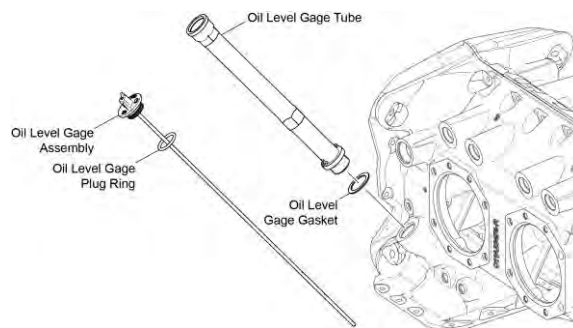

Figure 3
- B. Carefully turn the oil level gage tube (Figure 3) to remove the oil level gage assembly and tube as a unit (with the dipstick and O-ring) from the engine. Discard the oil level gage gasket and oil level gage plug ring.
- A. Install a new oil level gage gasket on the threads of the top of the oil level gage tube (Figure 3).
- E. Install a new oil level gauge plug ring on the threads of the oil level gage assembly (Figure 3).